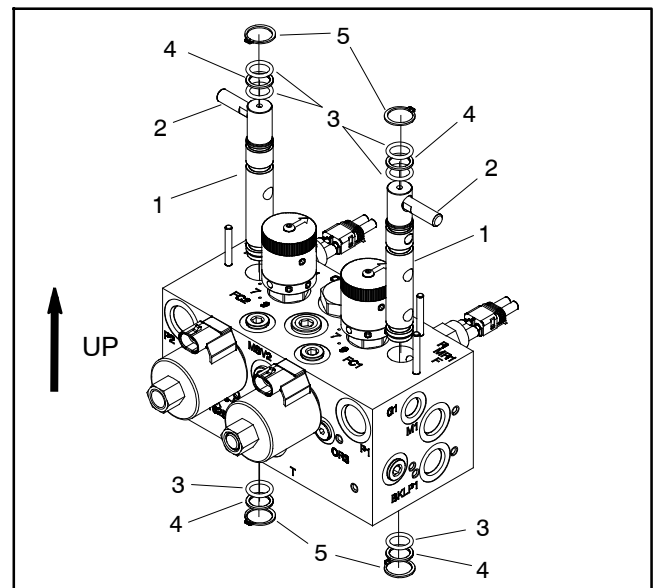

Figure 75
5. If necessary, remove mow/backlap spool from mow manifold (Fig. 75):
9. If mow/backlap spool was removed from mow manifold, install spool (Fig. 75):